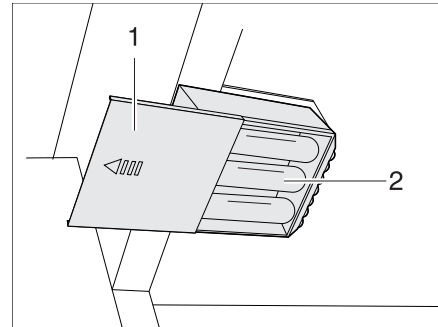

Fig. 183 Wardrobe light with LED, battery compartment opened
- Insert new batteries of the same type, observing the correct polarity (+/-) (Bild 183,2).
- Push the cover (Bild 183,1) back on.